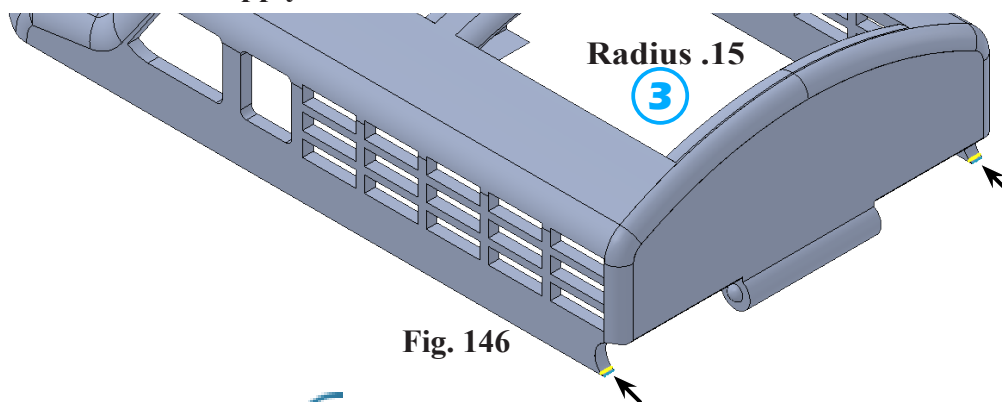

Fig. 146
③ Radius  .15
click horizontal edges hinge cut (2), Fig. 146